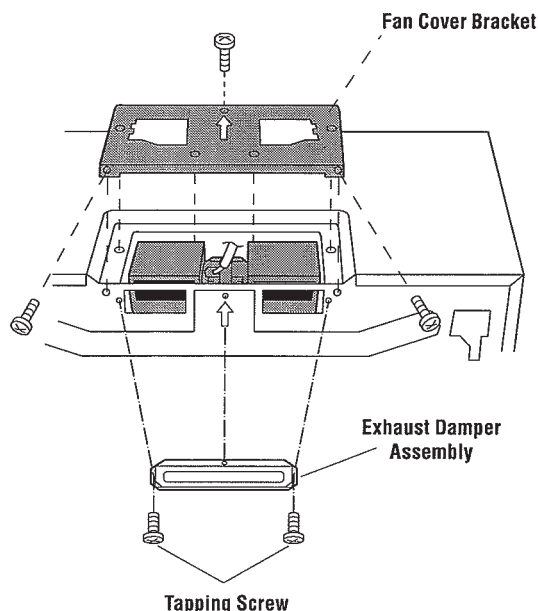

Figure 10
4. Put the lead wire into Wire Box. See Figure 10.
6. Attach the Exhaust Damper Assembly to the back of the unit. See Figure 10. Use two Tapping Screws 4 x 8 mm from the INSTALLATION HARDWARE and tighten into place.
5. Replace the Fan Cover Bracket by sliding it into the slits in the same direction as the arrow on the Fan Cover Bracket. Make sure the fan blades are visible through the top openings in the oven before proceeding. Attach the Fan Cover Bracket to unit with 3 screws, which were removed in Step 1 above. See Figure 10. The Hood Fan Unit is now rotated for vertical exhaust operation.